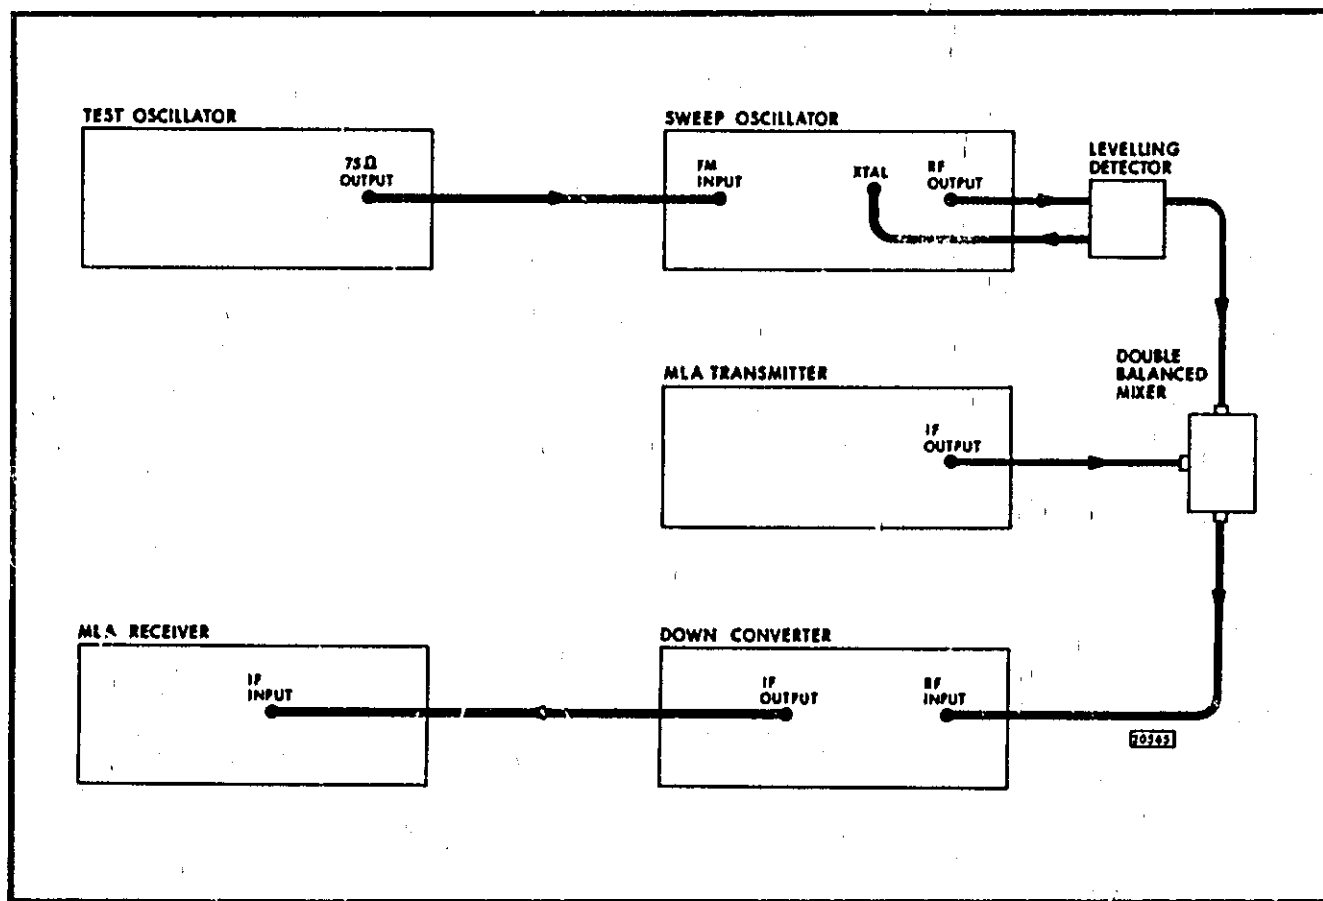

Figure 4-3 Equipment Set-up for Group Delay Response Adjustment
23. Reconnect the test oscillator output to the sweep oscillator. The equipment set-up should now be as shown in Figure 4-3.